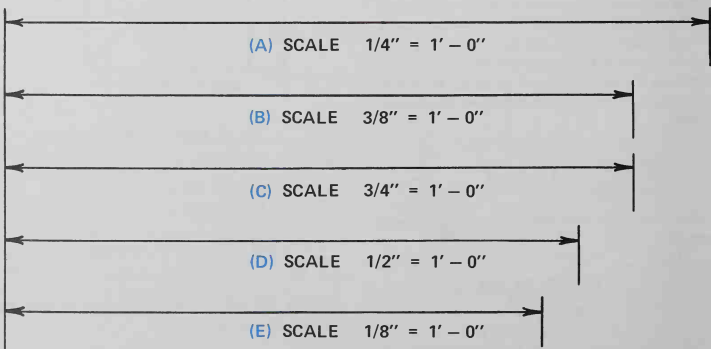

Fig. 7-10. Measuring problem.
1. Measure the distance marked in Fig. 7-10.